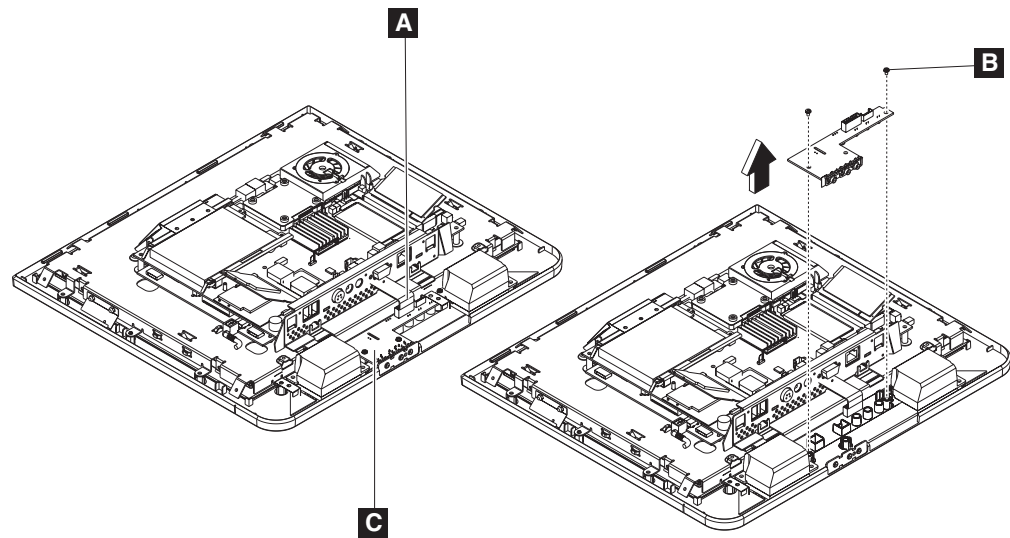

Figure 25. Removing the control card
2. See Figure 25. Disconnect the control panel cable (**A**).